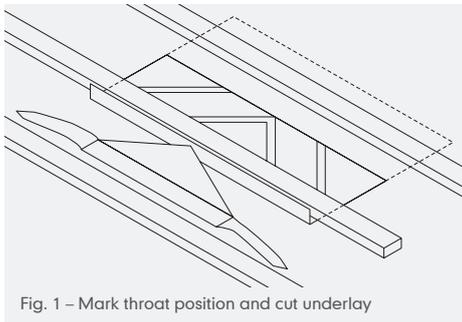

Fig. 1 - Mark throat position and cut underlay
- 2 At the position the ventilator is required, align the throat between two tile battens, and mark the throat position before cutting through the underlay as shown (Fig. 1).
- 3 Fold the three flaps upwards and outwards to provide the hole for the ventilator throat (Fig. 1).